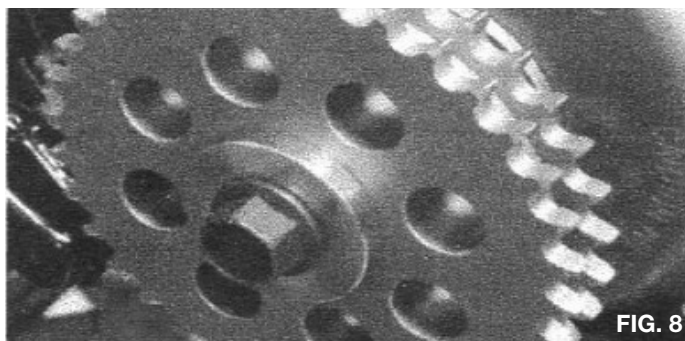

FIG. 8
9. Torque front sprocket bolt to 140-165 ft/lbs (figure 8).